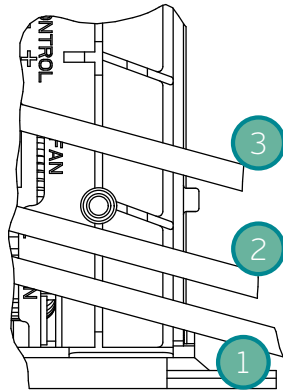

Figure 3.11: Step 1
1. Break the plastic protection as much as necessary to pass the cables. The cables must pass through the cord relief as shown in Figure 3.11